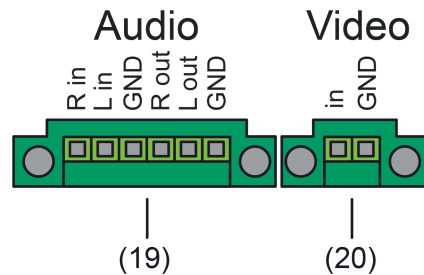

Figure 5: Terminals for audio and video connections
- Connect the mains voltage **L** and **N** to terminal (17).
- Connect the KNX bus line to the **BUS** terminal (15).
- Optional: Connect audio devices to terminal (19) (Figure 5).
- Optional: Connect the video device to terminal (20) (Figure 5).
- Optional: Connect USB devices to terminal (21).